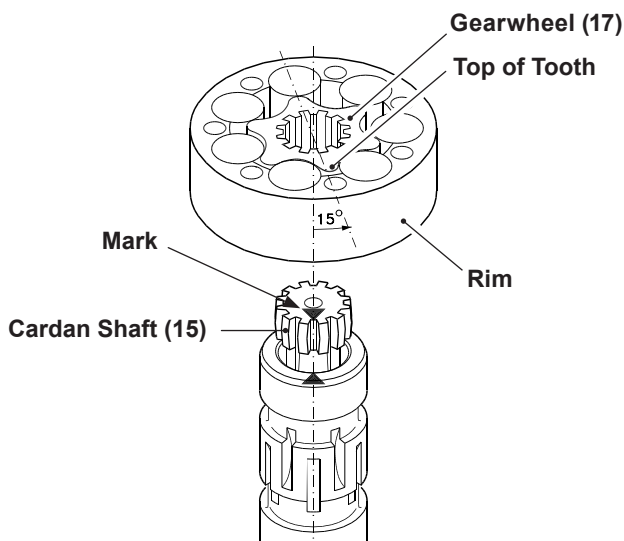

Figure 15, Gearwheel Set
4. In gearwheel set (17) with non-through splines place the gearwheel set (17) with the recess in the spline hole facing down towards the motor housing (9).
5. Fit the gearwheel set (17) on the cardan shaft (15) so that the top of the tooth in the external teeth of the gearwheel is vertically over the mark on the cardan shaft.
6. Turn the gearwheel set (17) counter clock-wise until the cardan shaft (15) and the internal gearwheel slips over and engages the splines.
7. Turn the gearwheel rim to line up the screw holes. *See figure 15.* Alignment marks made before disassembly should line up.